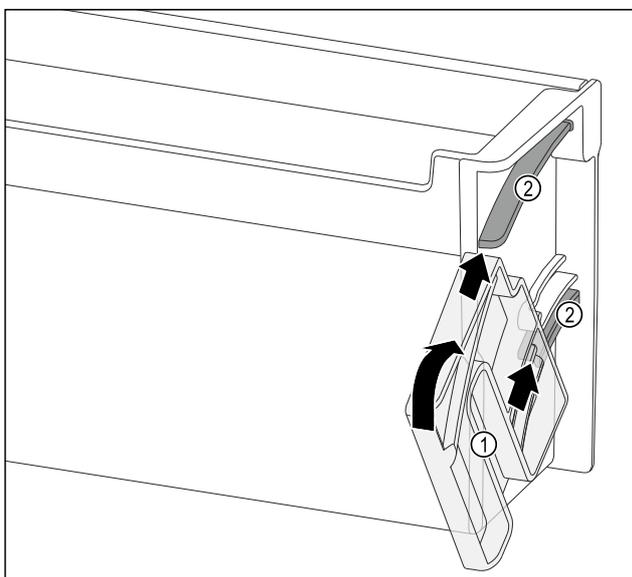

Fig. 119
- ▶ Position the turning unit Fig. 119 (1) so that the recesses are exactly opposite the guide channels Fig. 119 (2) of the door rack.
- ▶ Turn the turning unit Fig. 119 (1) towards the specified direction.